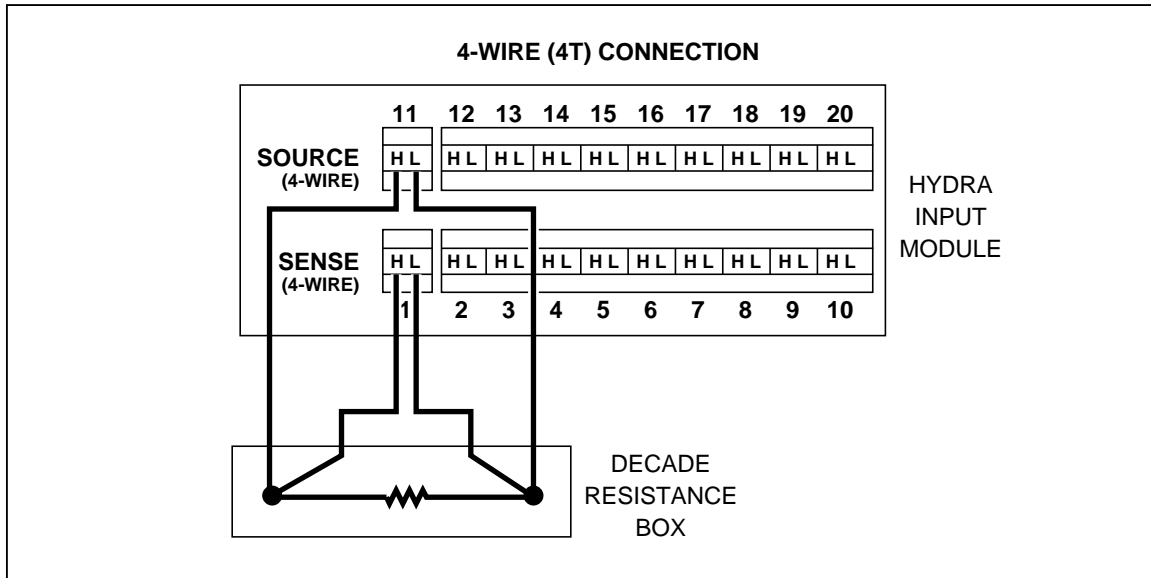

Figure 7-3. Four-Terminal Connections to Decade Resistance Box
3. Connect channel 1's test leads to the Output HI and LO terminals of the Decade Resistance Source. For Four-terminal performance testing, also connect channel 11's test leads to the Output HI and LO terminals of the Decade Resistance Source. Connect as shown in Figure 7-3.
Four-terminal RTD: Connect the RTD's excitation leads (one red and one black wire) to the H (high) and L (low) terminals of channel 1. Connect the RTD's second pair of red and black leads to the H and L leads of channel 11. (Refer to Figure 7-3 for proper connection.) Reinstall the Input Module into the instrument.